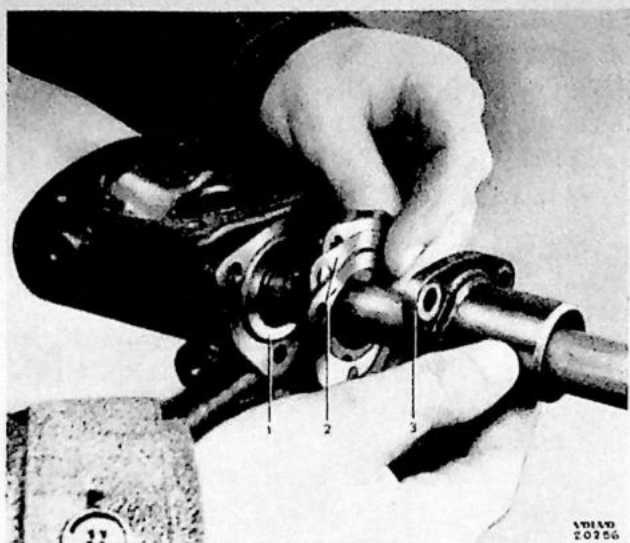

Fig. 26. Adjusting bearing clearance.
4. Install steering column in steering gear housing. Fit top cover (fig. 26). Adjust with shims so that the steering shaft can be easily turned without excessive clearance when the screws are tightened.